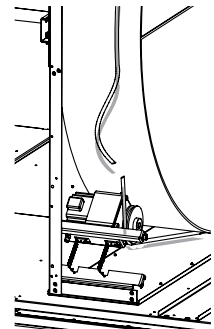

Fig. 17
- For changing the round belt, please proceed as follows: Place the new round belt on the drum, fix it in place with adhesive tape and turn the drum by hand to thread the belt through (see Fig. 17).